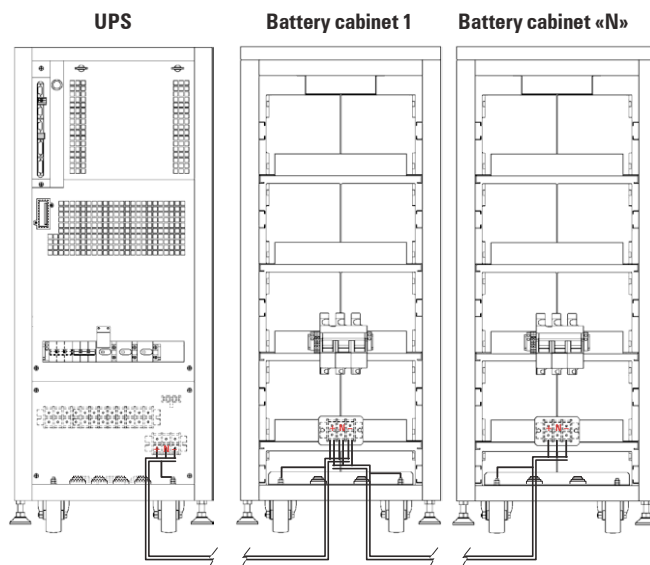

Fig. 33. Example of connection between UPS and two battery cabinets.
- The connection of the battery cabinet with a UPS with power rate higher than 20 kVA (LV) / 40 kVA (HV) or for B1 models, will be done with the supplied cable bundle, by connecting one side to terminals **(X11), (X23) and (X12)** of UPS and the other one to terminals **(X47), (X49) and (X48)** of battery module, always respecting the stated polarity on the labelling of each element and this manual, as well as the colour of the cables (red for positive, black for negative, blue for middle tap (N) and green-yellow for earth bonding), see Fig. 33.
As an example Fig. 33 shows the connection between one UPS and two battery cabinets. Proceed in the same way when connecting more modules.